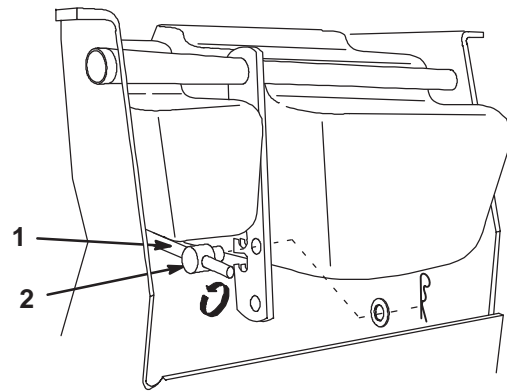

Figure 27
3. For variations of less than a link in range disconnect the lift rod from the lift arm and rotate the trunnion (Fig. 27) Turning clockwise increases lift height and tilling depth and counter clockwise reduces lift height and increases tilling depth.